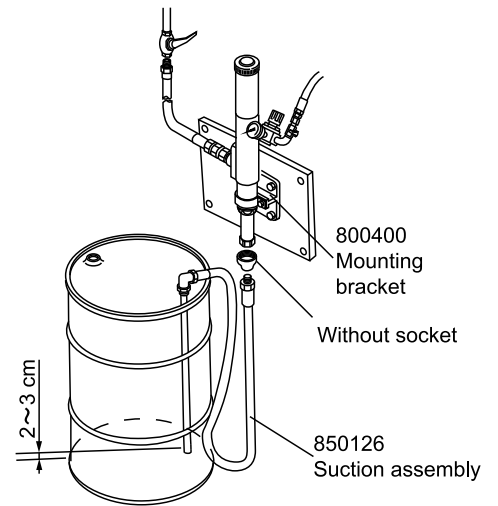

Fig. 5
- 1) Loosen the bolts of the pump fixing band for the mounting bracket (option, product number 800400) to remove the band. Set the pump onto the bracket, support with the pump fixing band, and fix with accessory bolts. When this is done, tighten the bolts to such an extent that the pump will not rotate. (The tightening torque is 12N-m or less.) If tightened too much, the plunger in the suction tube will not work. (Fig. 5)
- 2) Connect the Rc3/4 inch at the hose inlet port of the suction hose assembly (option, product number 850126) to the suction port of the pump. When this is done, wind commercially available sealing tape around the male screw of the pump and screw it in. (Fig. 5)